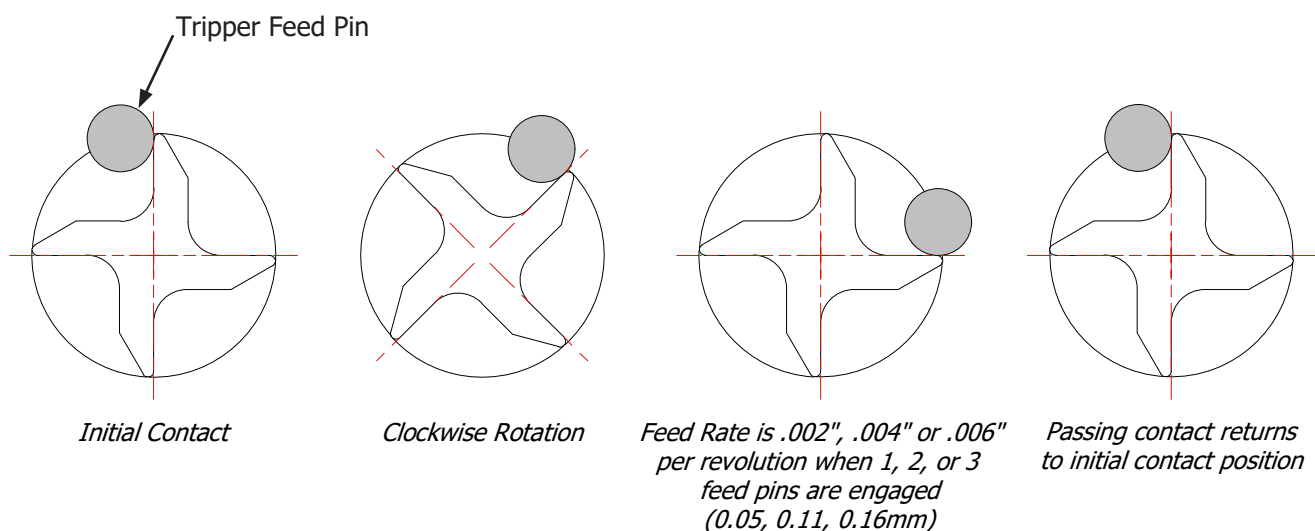

Figure 2-8 – Feed Screw Backlash
9. Adjust the tool block starwheel to remove feed screw backlash. Using a 5/8 hex socket, turn the starwheel knob counter-clockwise until the block begins to move. Set the bottom lobe of the starwheel a few degrees to the left of the vertical centerline. This is the optimal position for indexing the feed pin. Figure 2-8 shows proper feed pin engagement with the starwheel.
1. Install two sever bits. With the tool bits touched off the workpiece high-point, turn the starwheel one revolution to back the tool bits slightly away from the workpiece. Make sure the starwheel is set at the initial contact position, as shown in Figure 2-8. Make sure the power supply is off. Connect the power supply to the drive motor. Disengage the feed pin and slowly apply power to check the function and speed of the clamshell.
1. Install two left or right-hand sever/bevel bits. With the tool bits touched off the workpiece high-point, turn the starwheel one revolution to back the tool bits slightly away from the workpiece. Make sure the starwheel is set at the initial contact position, as shown in Figure 2-8. Make sure the power supply is off. Connect the power supply to the drive motor. Disengage the feed pin and slowly apply power to check the function and speed of the clamshell.